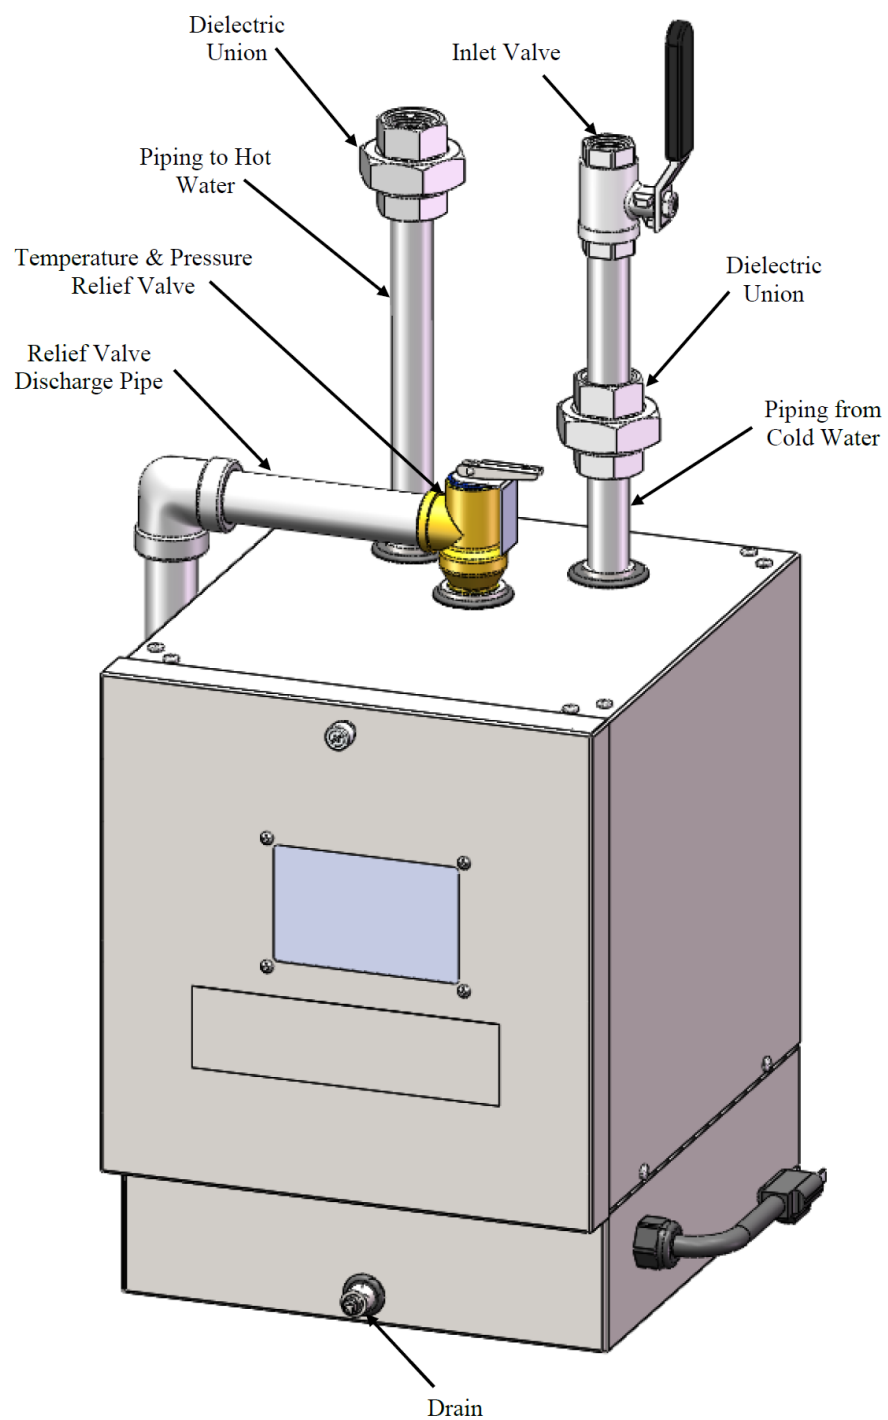

Figure 8: Recommended Installation Diagram
1. Connect the cold water inlet and hot water outlet to the appropriate connections; refer to Figure 8.